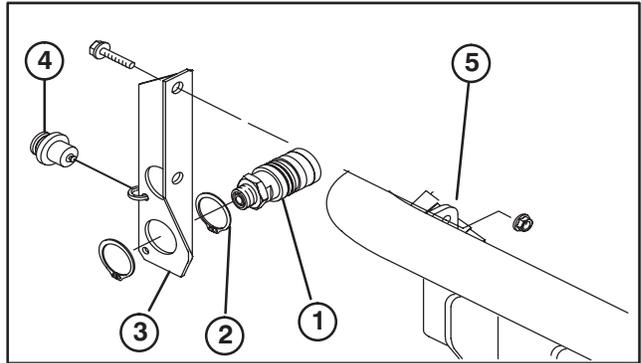

Figure 21
34. Install a retaining ring onto each hydraulic coupler, insert couplers into coupler bracket and secure each with another retaining ring (Fig. 21).
35. Secure dust plug mounting rings to holes in coupler bracket (Fig. 21). Insert dust plugs into couplers.
36. Mount coupler bracket to rear frame bracket with (2) 1/4–20 x 1–1/4" lg. flangehead capscrews and flange locknuts (Fig. 21). If vehicle is equipped with an optional rear PTO, mount coupler bracket and PTO shield.